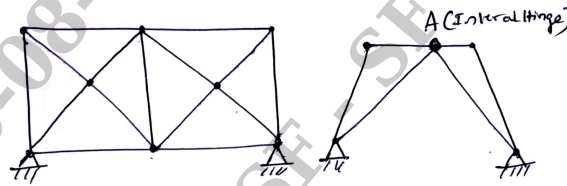

Fig.Q1(a)
- 1 a. Differentiate between determinate and indeterminate structures. Define static indeterminacy and kinematic indeterminacy. Determine degree of static indeterminacy shown in Fig.Q1(a).